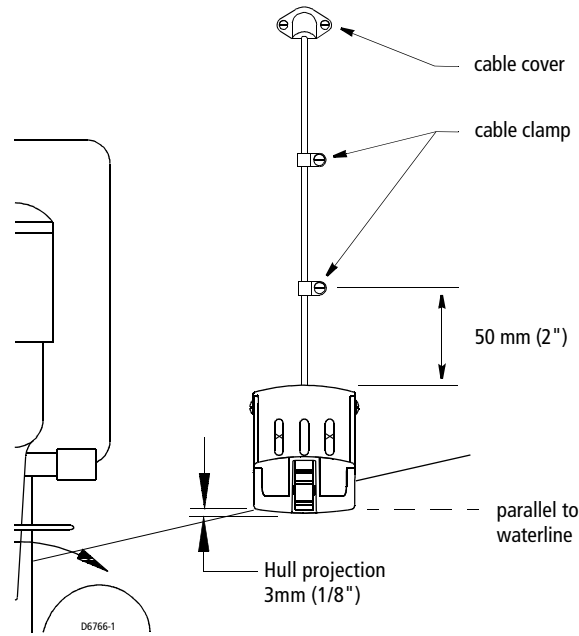

Figure 2-10: Vertical Adjustment and Cable Routing
1. At the selected location on the starboard side of the hull, position the transducer, so the transducer projects 3 mm (1/8") below the bottom edge of the transom (see *Figure 2-10*).
2. Screw the transducer (with the shim if needed) to the hull (see *Figure 2-10*). *Do not tighten the screws at this time.*
2. Using the vertical adjustment space in the bracket slots, slide the transducer up or down (see *Figure 2-10*). Be sure the bottom left corner of the transducer projections 3 mm (1/8") below the bottom of the hull.
1. If a hole must be drilled through the transom, choose a location **well above the waterline** (see *Figure 2-10*). Check for obstructions such as trim tabs, pumps, or wiring inside the hull. Mark the location with a pencil. Drill a hole using the appropriate size bit to accommodate the connector.